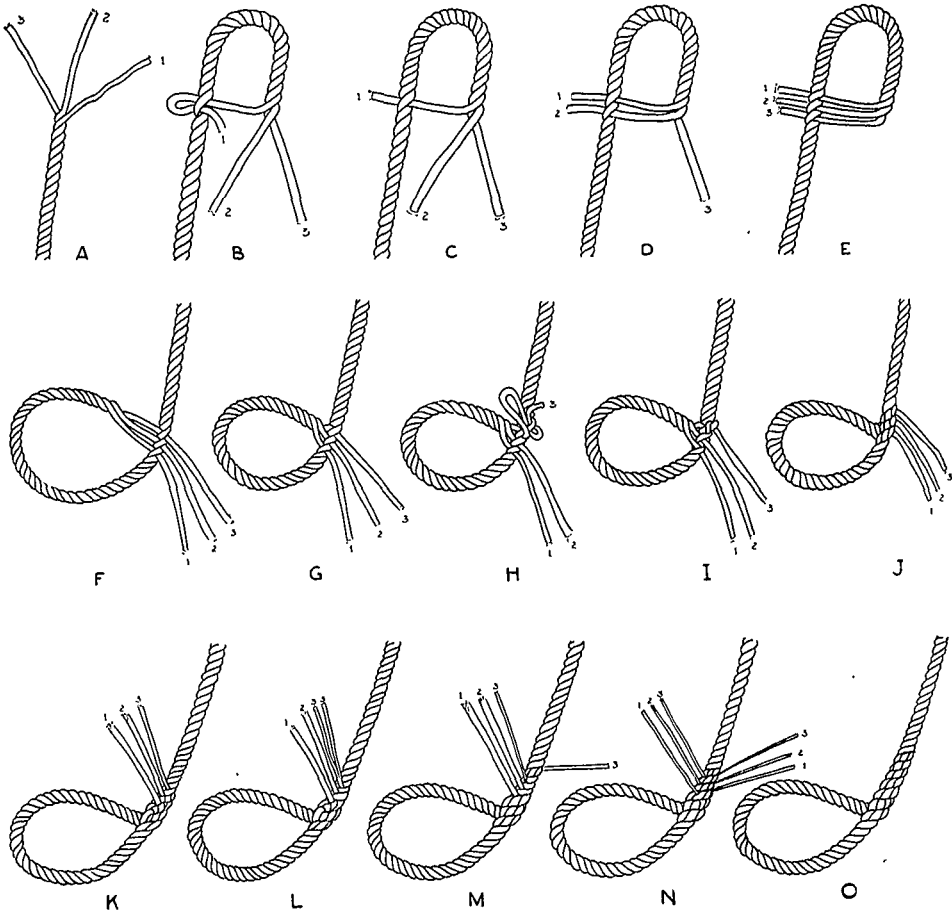

FIG. 21. Spliced eye
Spliced Eye—The spliced eye (Fig. 21) is used where the full strength of the rope is wanted and for permanent loops such as in a rope halter.
F. Remove the string around the right-hand rope (either side that happens to be on the right). From the left-hand rope, select any strand that happens to extend up. Fold it back near its end, pass it over the first strand in the rope down on the farther side of it (the one it was tied with) and pull it underneath this strand toward you. (The same as the spliced eye, Fig. 21). Pull it through tight and at the same time give it a tightening twist.